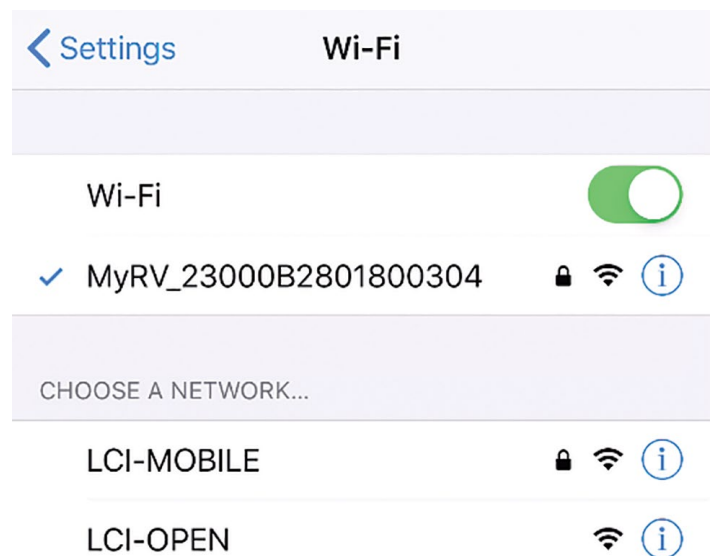

Fig.19
7. Connect the other end of the right-angled coaxial cables (Fig.19 and B) to each of the coaxial ports on the ConnectAnywhere interface plate (Fig.9).
5. When joined with the network, a check mark ✓ will appear next to the network name and the connectivity symbol  will appear in the mobile device's display (Fig.19).